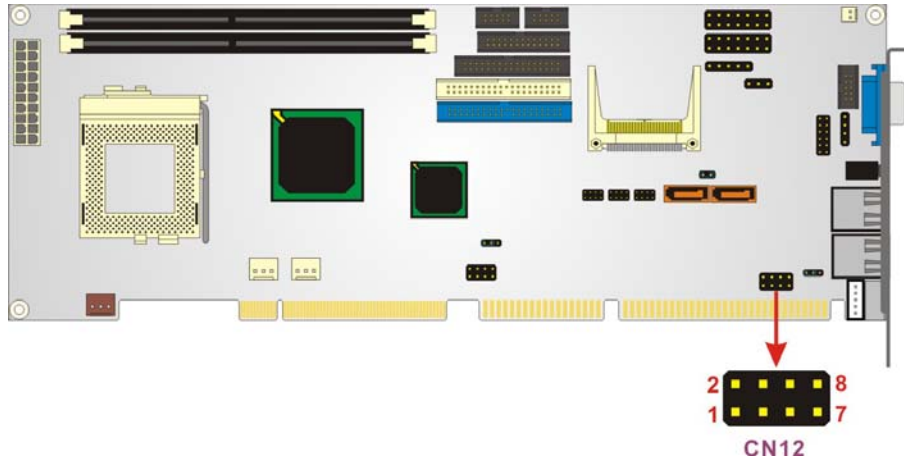

Figure 3-14: LAN LED Connector Location
- CN Location: See Figure 3-14